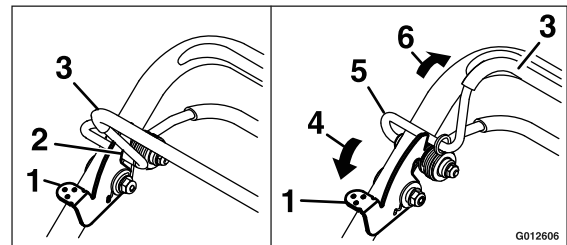

Figure 13
2. Push and hold the blade control lock lever forward to release the blade control bail (Figure 13).